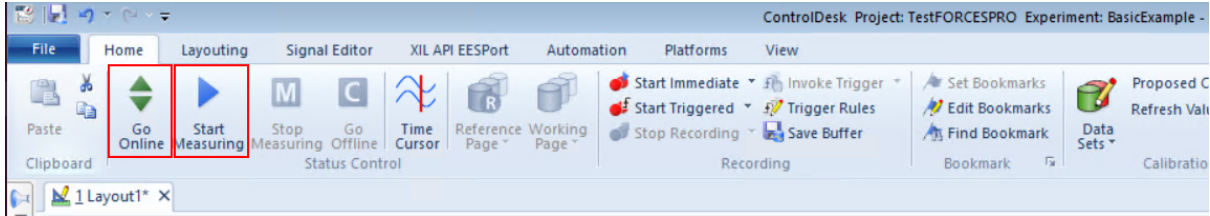
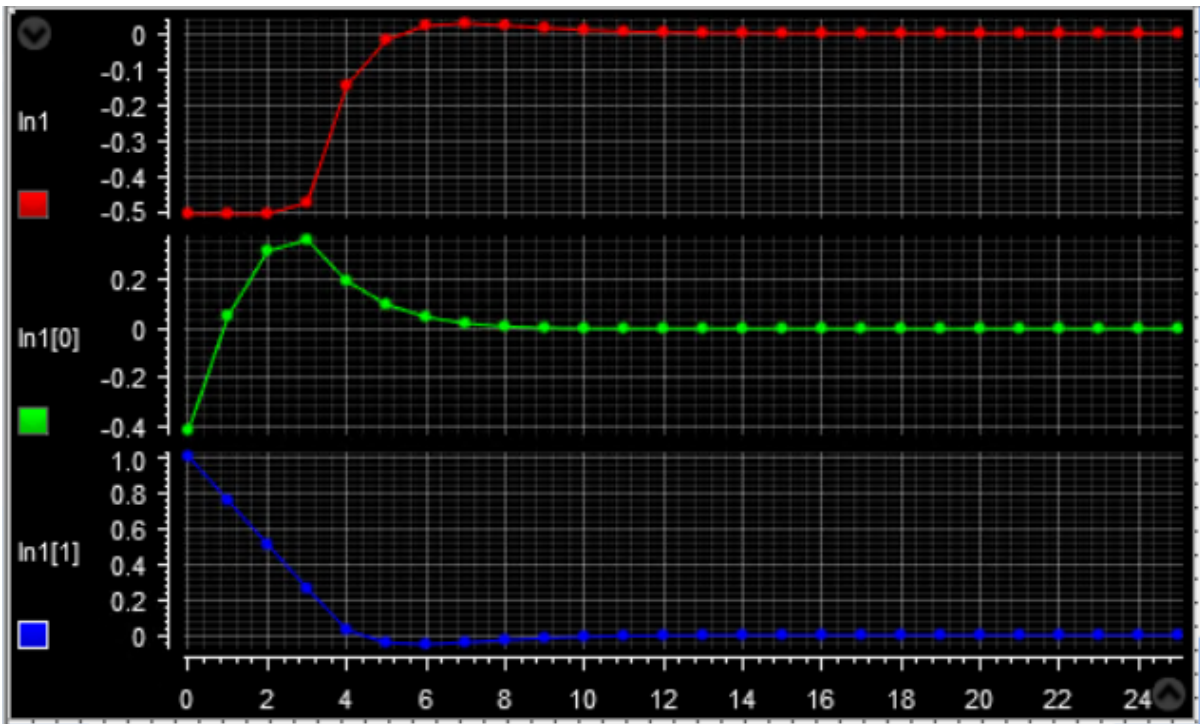

Figure 12.85: Buttons Go Online and Start Measuring to receive execution results.
Figure 12.86: Plots and results from experiment on dSPACE MicroAutoBox III.
- 10) Select Go Online and Start Measuring to see the results. (see Figure 12.85 and Figure 12.86).